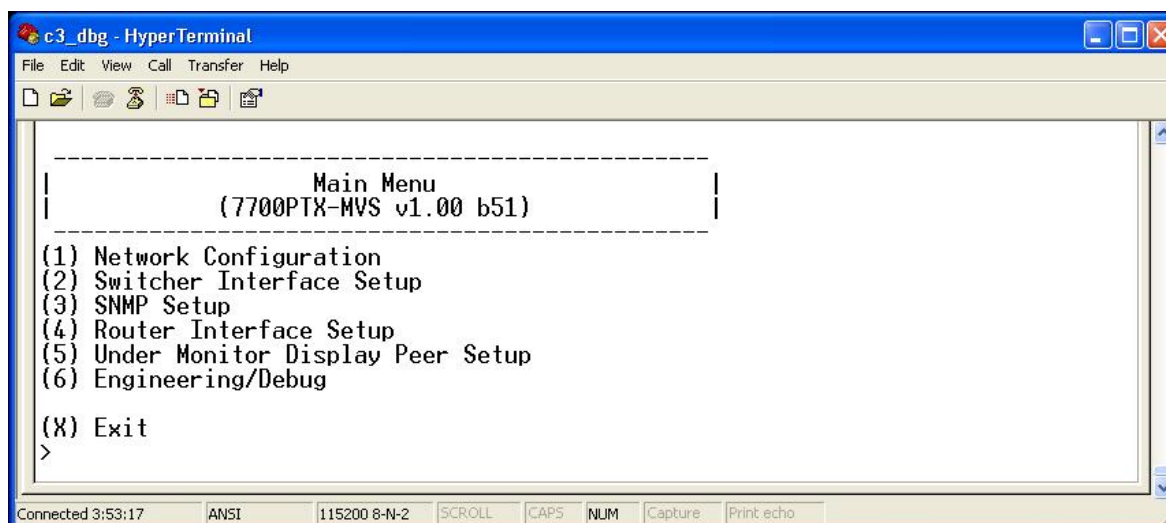

Figure 2-6: 7700PTX-MVS Main Menu
13. Various 7700PTX-MVS parameters are configurable via the 7700PTX-MVS’s menu system, the root of which is called *Main Menu*. This is shown in Figure 2-6.